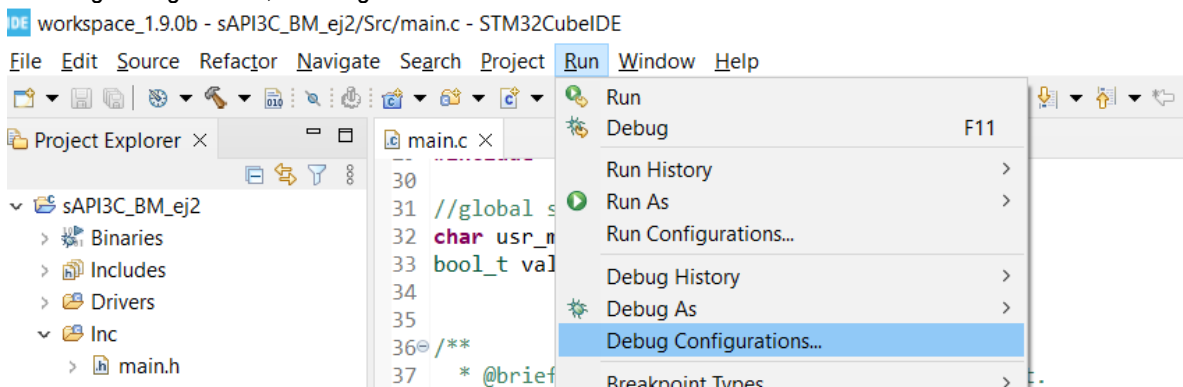

Figure 13 – Running and debugging the Example 2 project
**3.a.2 Using STM32CubeIDE to run Ex2:** To run the example, connect all components as in Figure A.1 of APPENDIX I, and first go to Run→Debug Configurations, as in Figure 13.